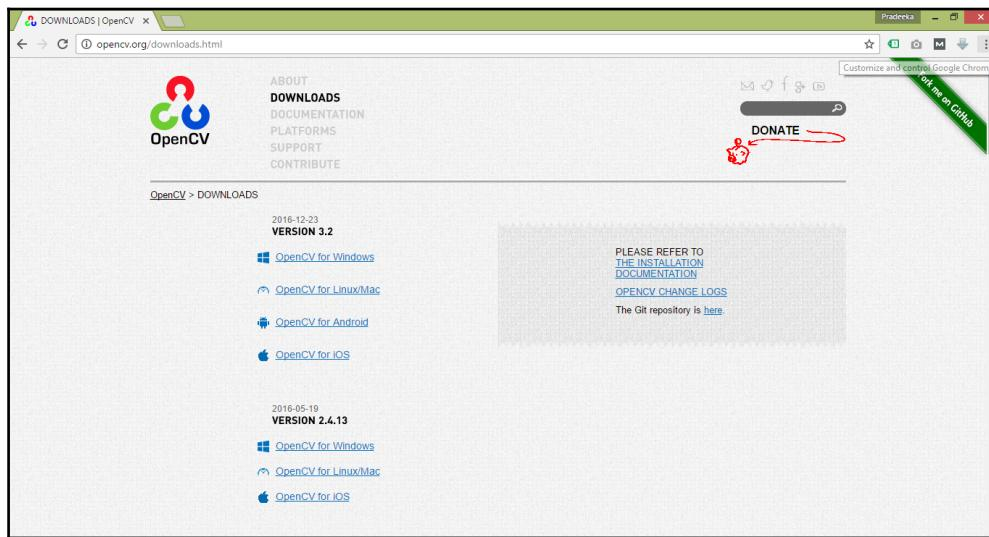

Figure 7-3: OpenCV v3.2 for Windows
1. Download the latest release of OpenCV from <http://opencv.org/downloads.html>. The page (Figure 7-3) will list all the versions released. Click on the **OpenCV for Windows** link under **VERSION 3.2.0**, dated **2016-12-23**, which is the latest release at the time of writing this book: